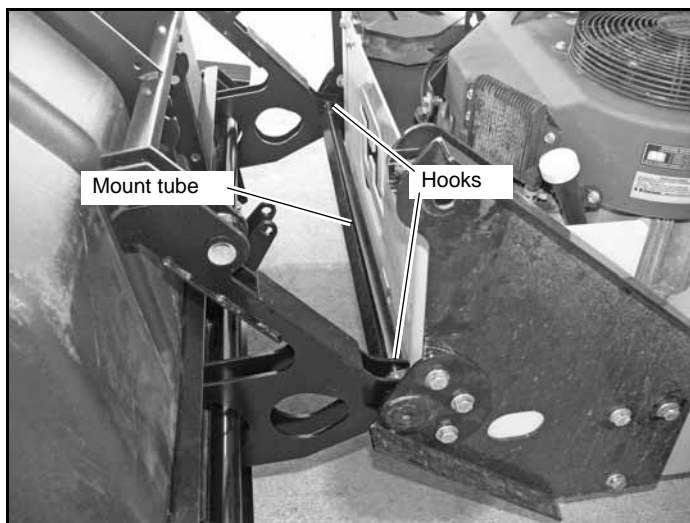

Figure 3-20
2. Roll the BAC-VAC™ to the mower and slide the lower hooks over the rod on the mount tube. Figure 3-20